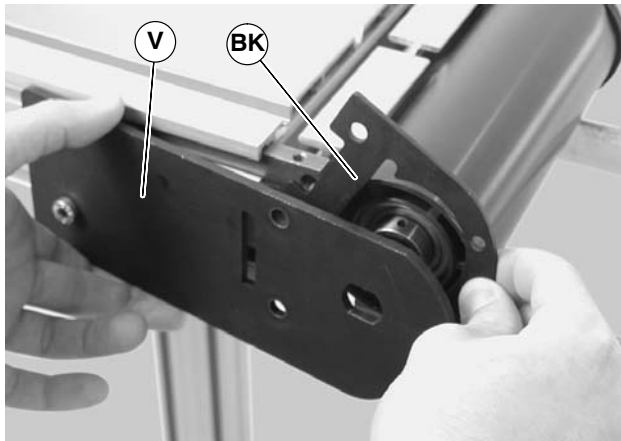

Figure 54
3. Pull back the outer headplate (V of Figure 54) and remove the inner spacer (BK).